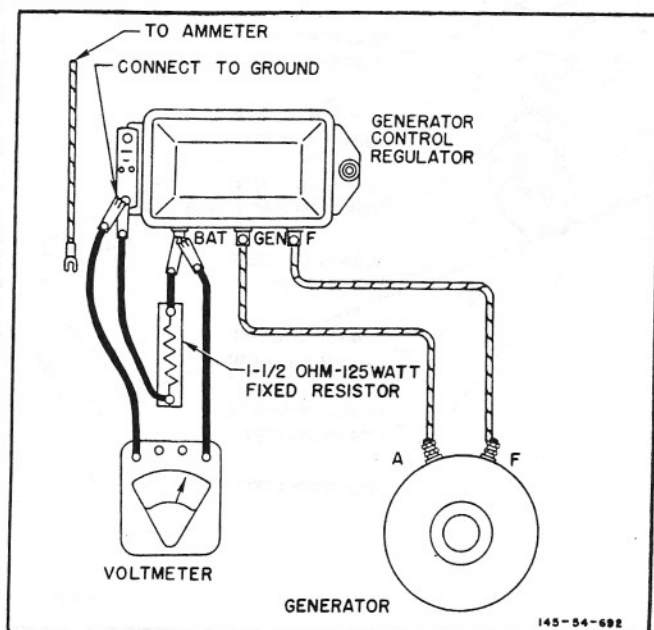

Figure 52 - TEST SET UP FOR ADJUSTING VOLTAGE REGULATOR RELAY
1. Connect voltmeter and fixed resistance to voltage regulator relay, as shown in figure 52.